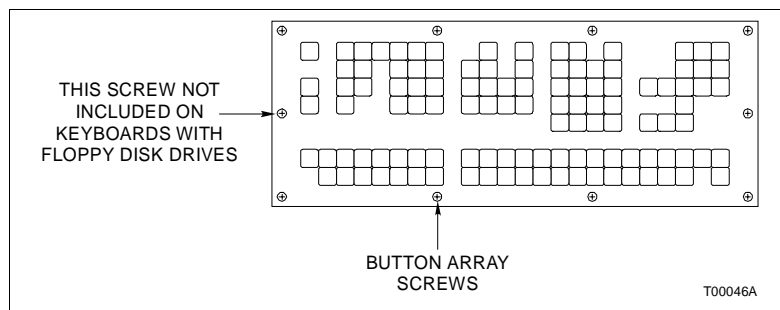

Figure PR54-1. Keyboard Button Array
2. Use the Phillips head screwdriver to remove the nine (for keyboards with a floppy disk drive) or ten (for keyboards without a floppy disk drive) button array screws that secure the keyboard button array to the keyboard base (Fig. PR54-1).